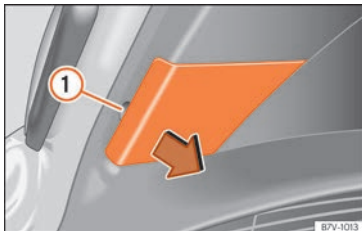

Fig. 68 On the rear lid: remove the cover.
- Extract the cover carefully using the flat part of the screwdriver from the vehicle tool kit as a lever (»» page 41) on the indent »» Fig. 68 ①.